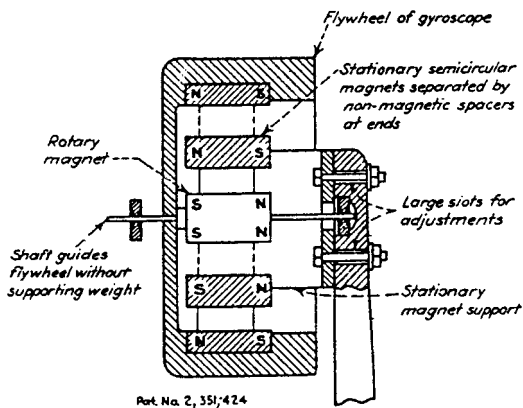

Fig. 15 A horizontal-shaft suspension.
**Fig. 15** In this refrigerator control, the necessary snap action is obtained from a toggle spring supported from a long arm moved by the bellows. With this form of toggle action, the contact pressure is at a maximum at the instant the contacts start to open. Thermostatic action is obtained from a vapor-filled system. Sulfur dioxide is the fill for typical refrigerating service or methyl chloride where lower temperatures are required. To reduce friction, the bellows makes point-contact with the bellows cup. Operating temperature is adjusted by changing the initial compression in the bellows spring. For resistance to corrosion, levers and blades are made from stainless steel with bronze pin bearings.